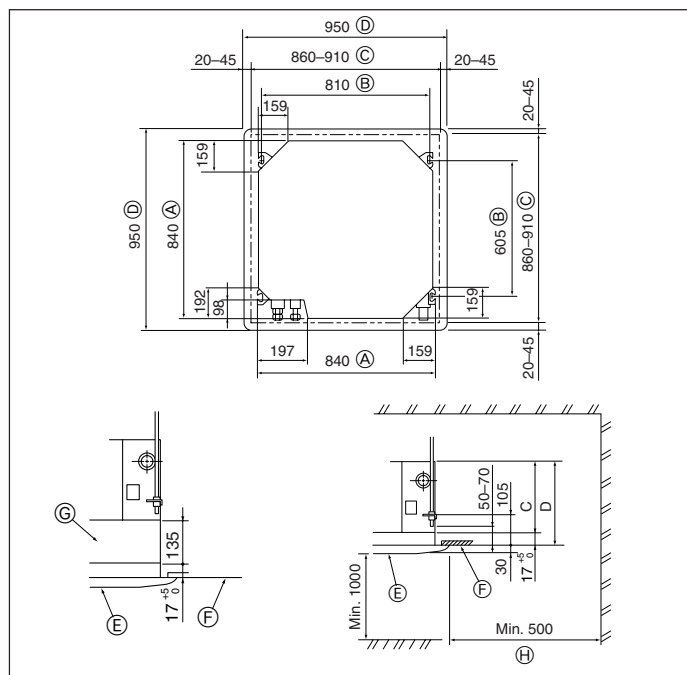

Fig. 3-2
3.2. Ceiling openings and suspension bolt installation locations (Fig. 3-2)